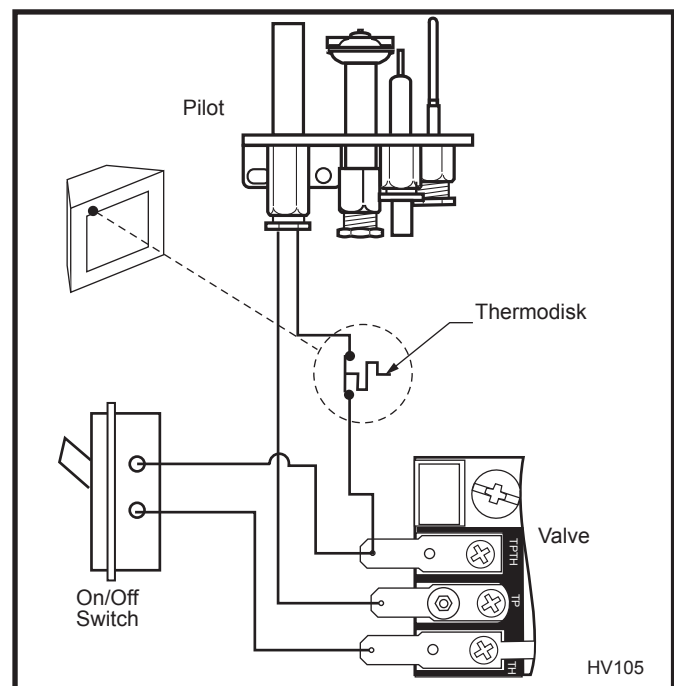

Fig. 11 Remote switch wiring.
3. Connect wiring to gas valve. Refer to Figure 11.